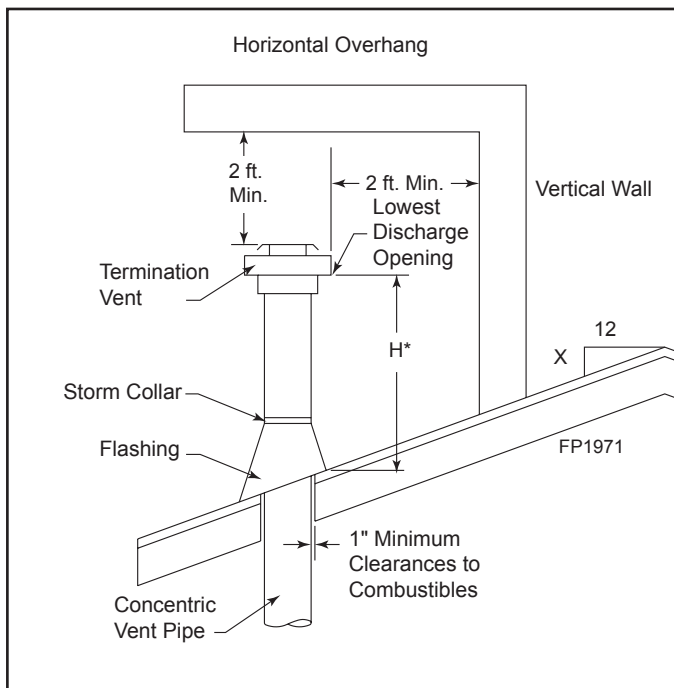

Figure 5.17 Minimum Chimney Clearance
- For the minimum height of the vent above the highest point of penetration through the roof refer to *Page 24, Figure 5.17*.
6. Continue to add pipe sections until the height of the vent cap meets the minimum building code requirements as shown in Figure 5.17.